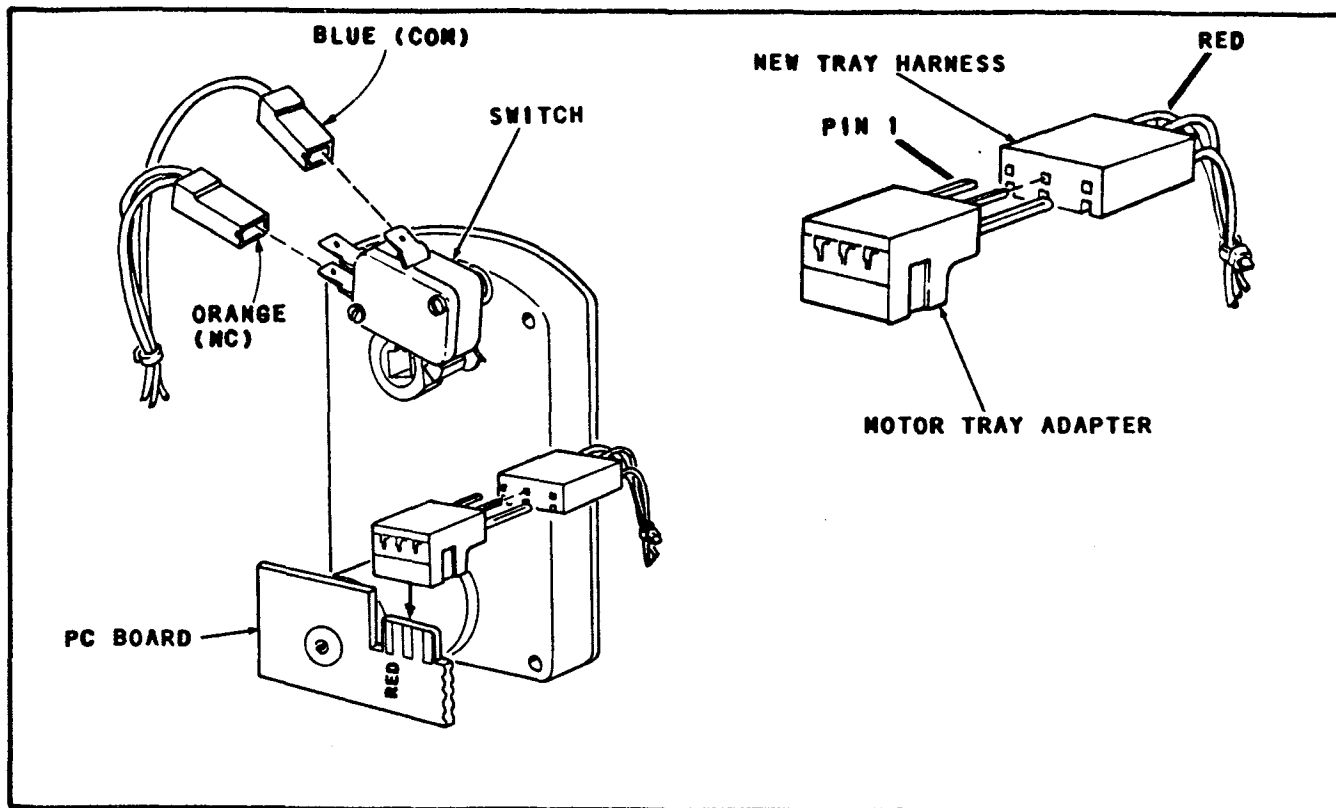

FIGURE 1
1. Install a Motor Tray Adapter on the end of each of the new Tray Harness connectors which lead to a Motor Assembly (See Figure 1).
2. Connect the new Tray Harness to the Switch and the PC Board of each Motor Assembly (See Figure 1).